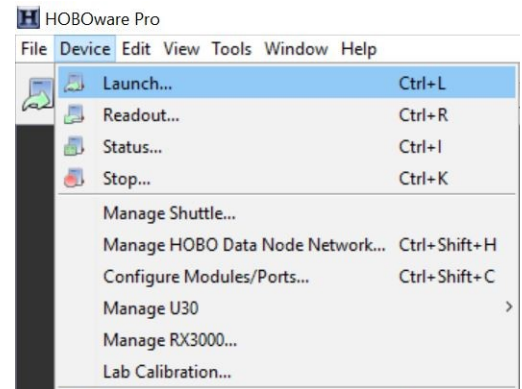

Figure 34. Launch in the Device Menu
1. Click on the *Device* menu at the top of the window, and then scroll to *Launch* in the drop-down menu (Fig. 34). The launch configuration window should appear.